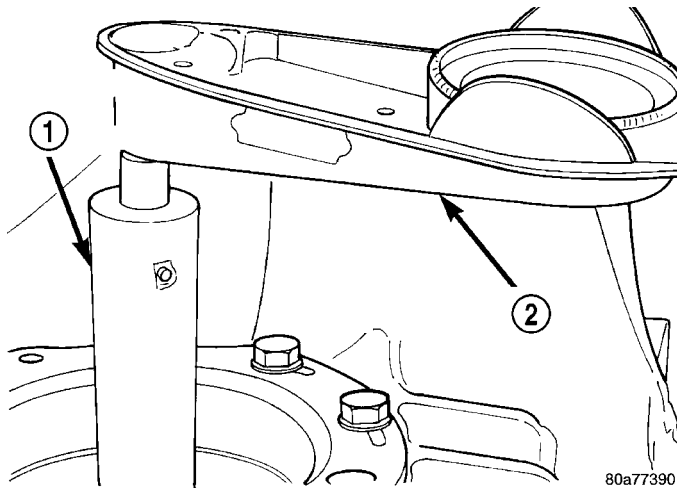

Fig. 186 Checking Differential Bearings Turning Torque
(3) Rotate the differential at least one full revolution to ensure the tapered roller bearings are fully seated.
(4) Using Tool L-4436A and an inch-pound torque wrench, check the turning torque of the differential (Fig. 186). **The turning torque should be between 5 and 18 inch-pounds.**
(7) Using Tool L-4436A and an inch-pound torque wrench, recheck the turning torque of the differential (Fig. 186). **The turning torque should be between 5 and 18 inch-pounds.**
- (9) Using the end play measurement that was determined, add 0.18mm (0.007 inch). This should give you between 5 and 18 inch pounds of bearing preload. Refer to the Differential Bearing Shim Chart to determine which shim to use.
- (10) Remove the differential bearing retainer. Remove the bearing cup.
- (11) Install the oil baffle. Install the proper shim combination under the bearing cup.
- (12) Install the differential bearing retainer. Seal the retainer to the housing with Mopar® Silicone Rubber Adhesive Sealant. Torque bolts to 28 N•m (250 in. lbs.).
- (13) Using Miller Special Tool L-4436-A and an inch-pound torque wrench, check the turning torque of the differential (Fig. 186). The turning torque should be between 5-18 inch-pounds.